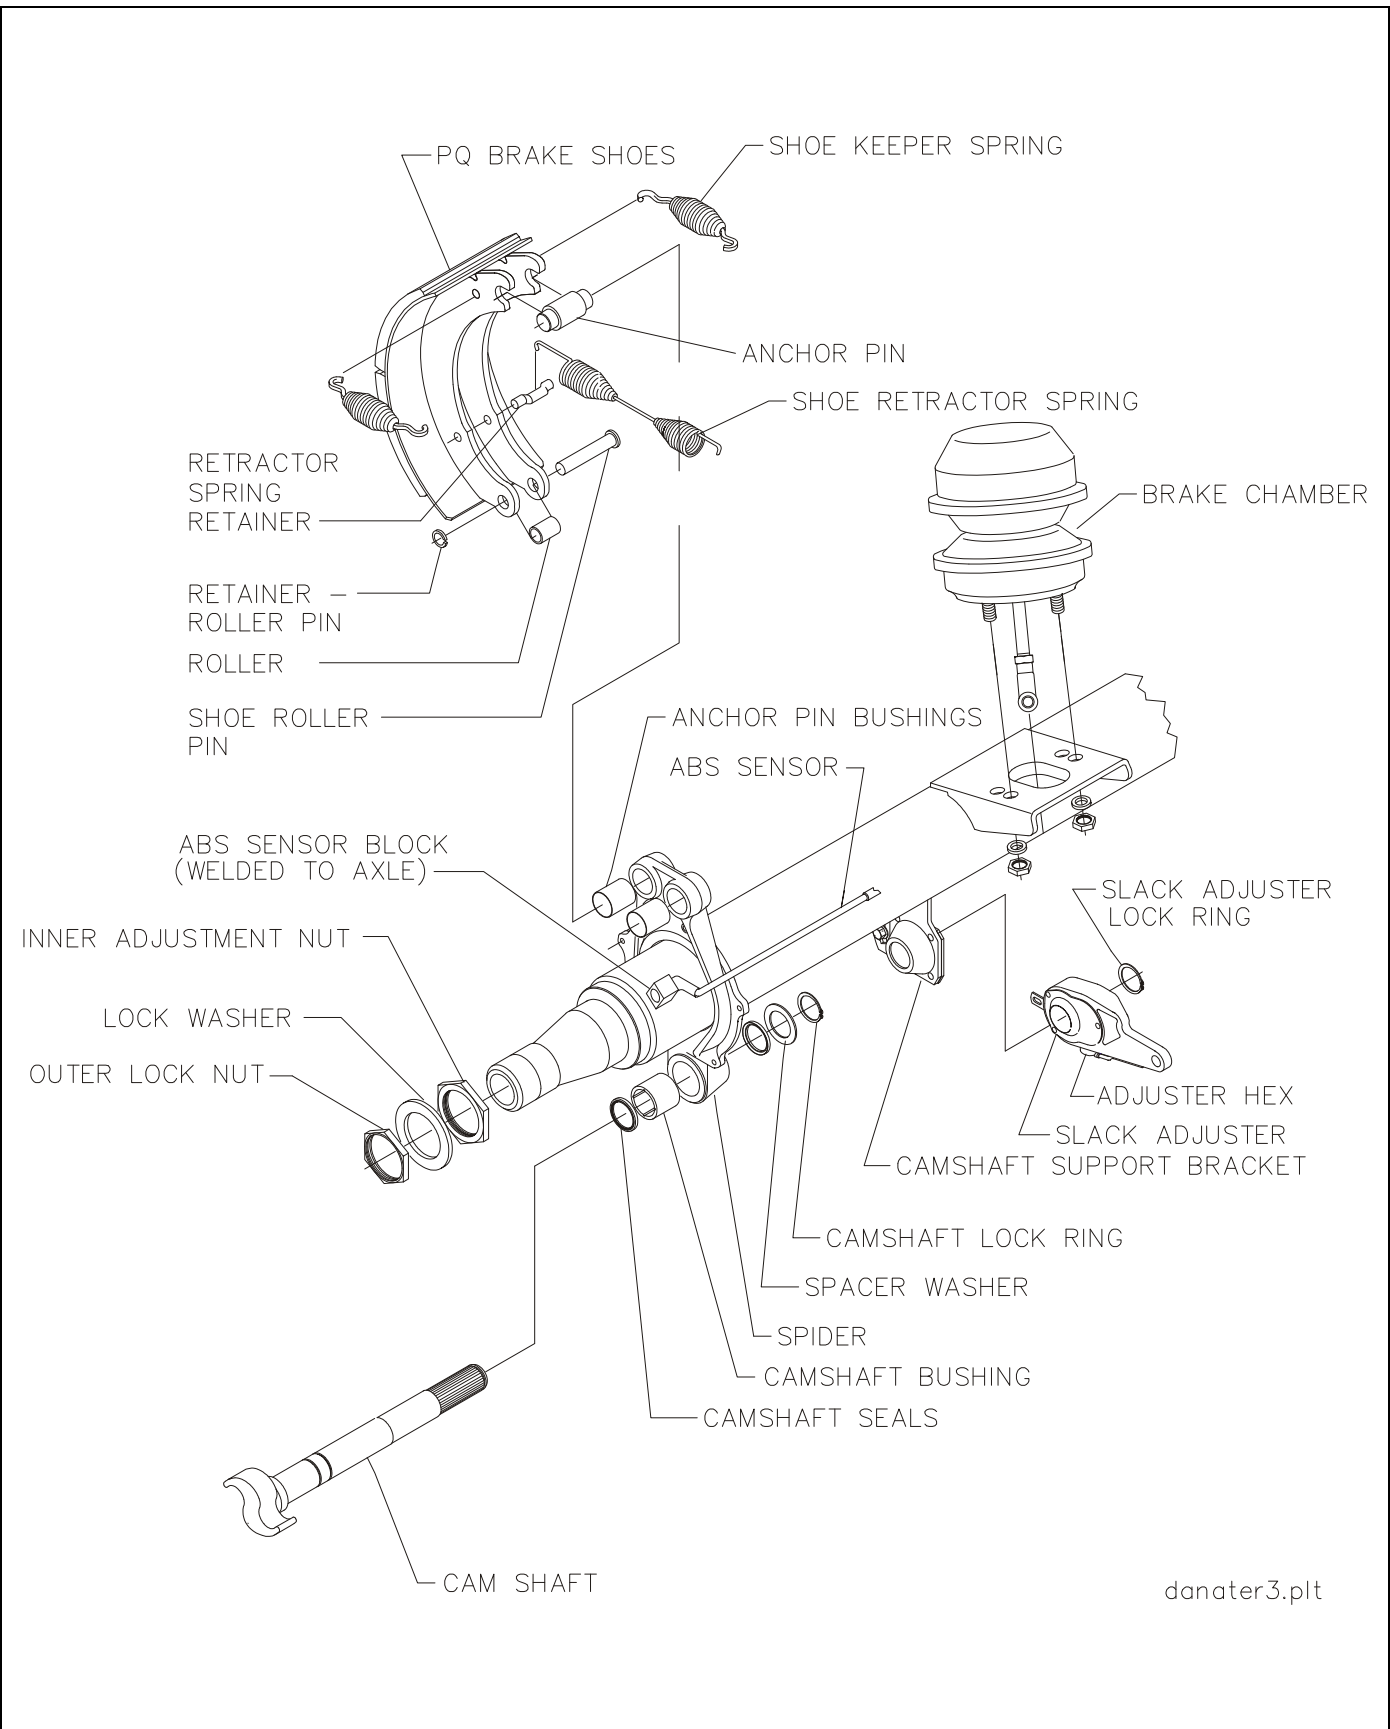

Figure 4-12: Axle and Brake Assembly
1. Release brakes and back off slack adjuster (See Figure 4-12.)
1. Install new anchor pin bushings, camshaft bushing and camshaft seals into the spider (See Figure 4-12.)